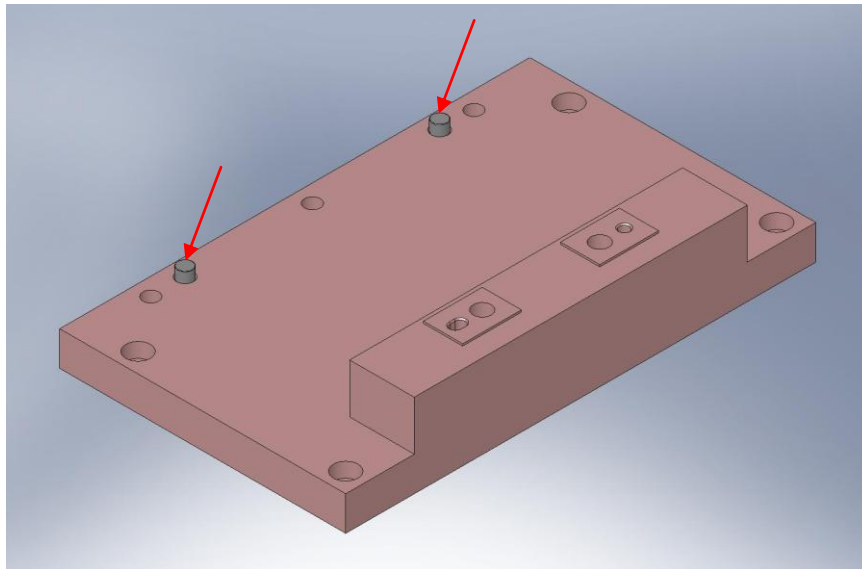
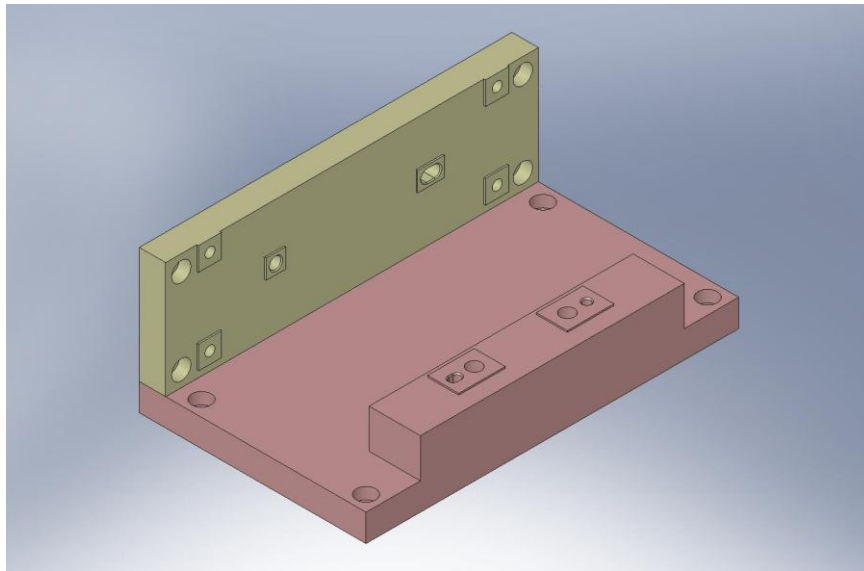

Figure 3.12. Press (2) pins into Set-Up Fixture Base Plate.
Figure 3.13. Bolt on Set-Up Fixture Side Plate.
- Assemble **Actuator Set-Up Fixture** (D071497). Refer to Figure 3.12 and Figure 3.13.